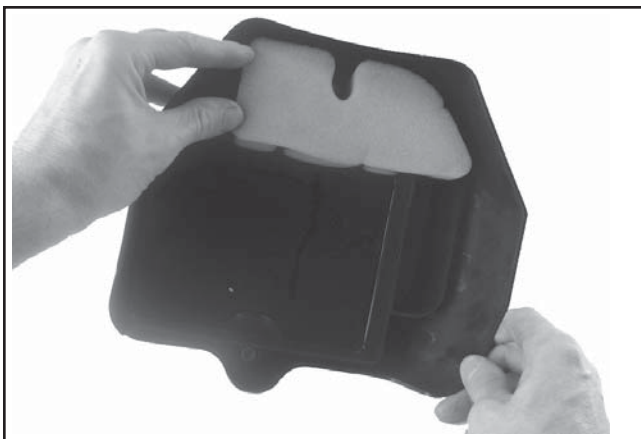

Figure 10-81. Installing Precleaner.
2. Install the precleaner (if so equipped), into the upper section of the air cleaner cover. See Figure 10-81.